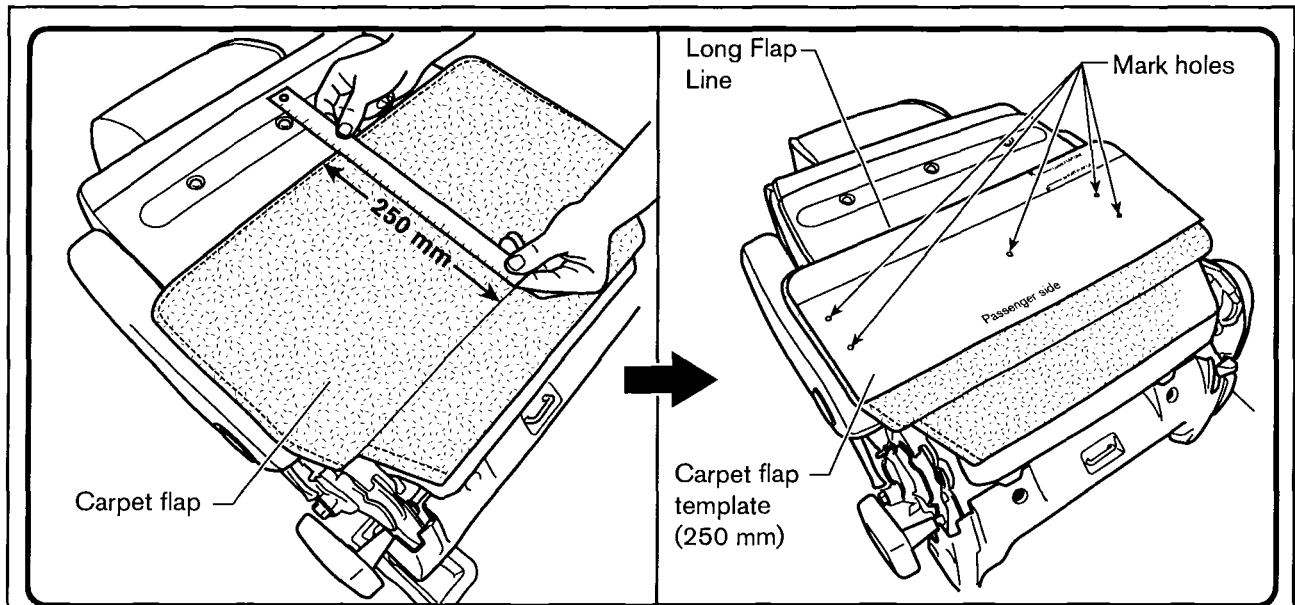

Figure 11a
- If the carpet flap is **250mm (9 ²⁷/₃₂")**, place the "Long Flap Line" of the carpet flap template along the carpet flap edge. Then mark the holes as shown in Figure 11a.